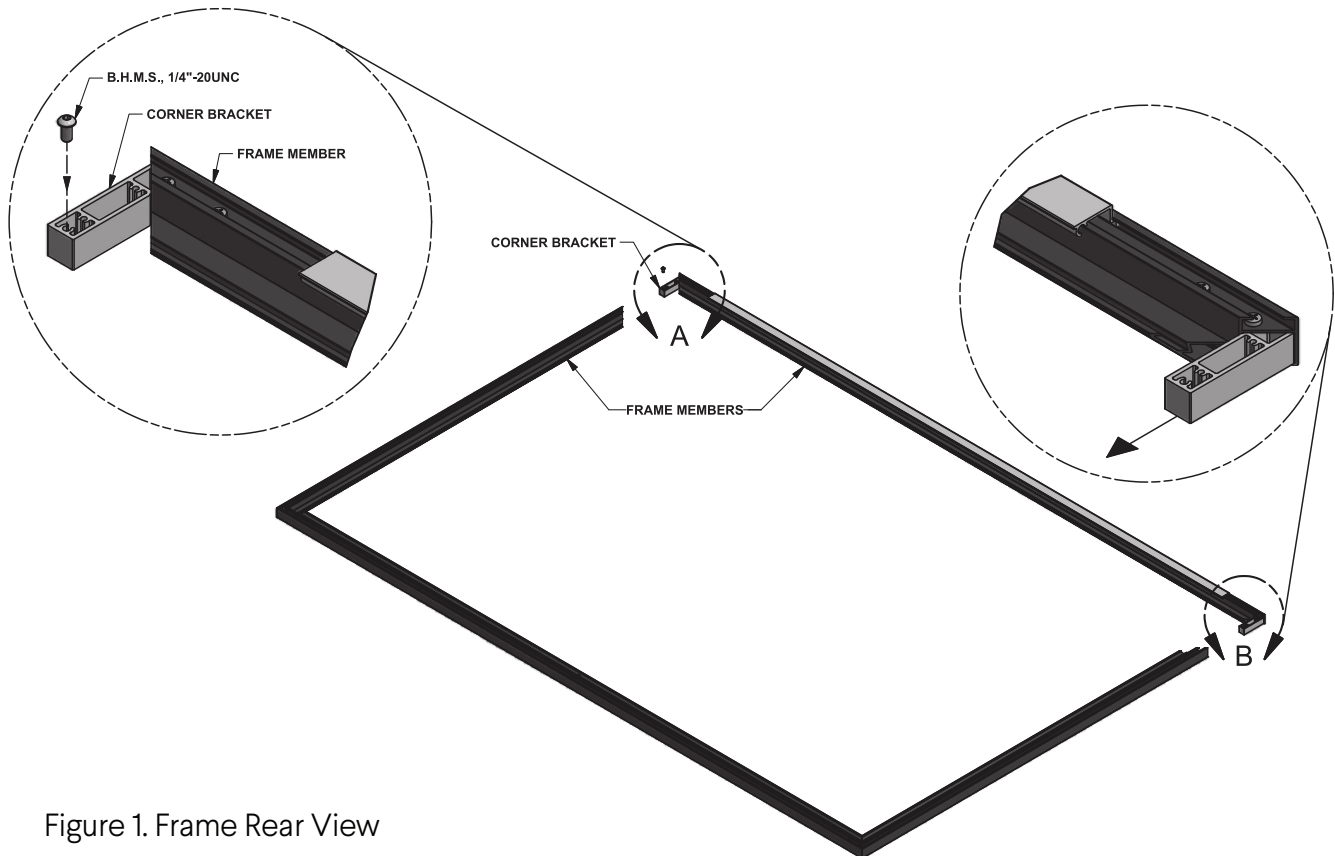

Figure 1. Frame Rear View
1. Connect the frame members by matching the labels on the ends of each member. See Figure 1.